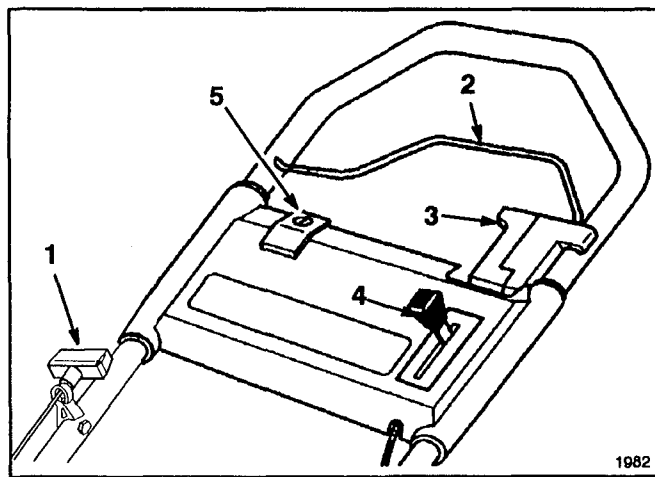
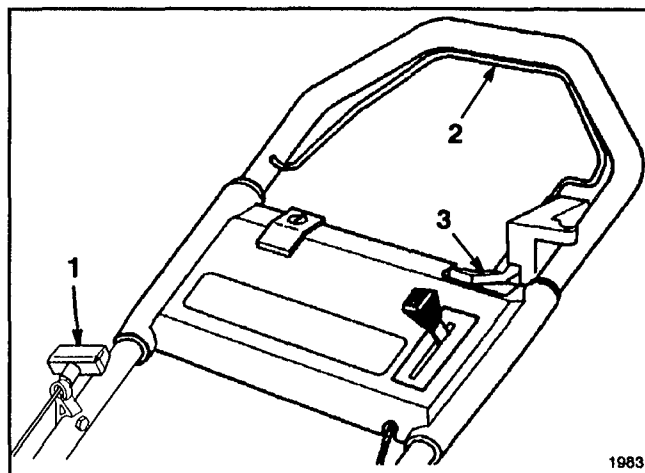
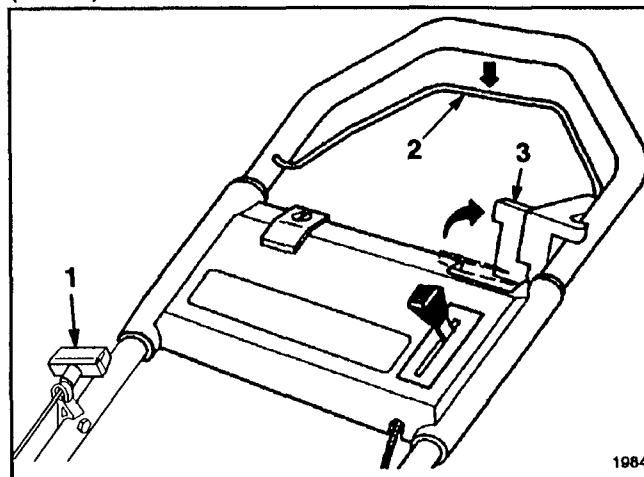
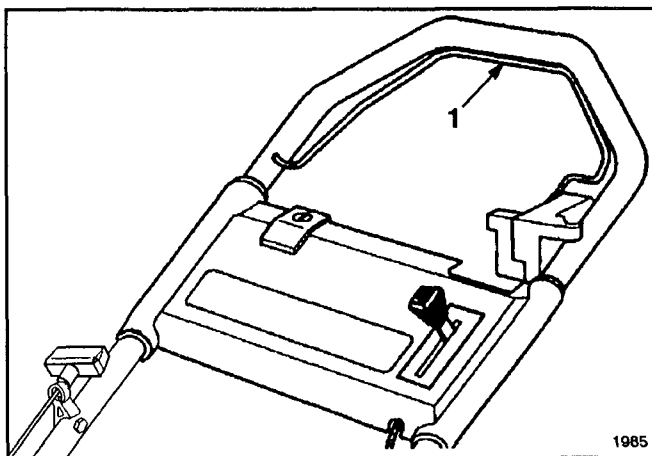

Figure 10
Figure 11
Figure 12
Figure 13
CONTROLS—Key switch, traction control, throttle, engine kill control bar and fingertip starter are on the handle (Fig. 10).
4. **KEY-ELECTRIC STARTING**—Move the traction control lever forward (toward the engine) (Fig. 11) and squeeze the control bar until it contacts the handle. Turn key (Fig. 10) to START and release when engine begins running. Lower the control bar halfway and move the traction control lever backward (toward the operator) (Fig. 12). Slowly squeeze the control bar against the handle to engage the traction mechanism (Fig. 13). Regulate the throttle as desired between  (FAST) and  (SLOW). If the battery's charge is too weak to start the engine, use the fingertip starter (Fig. 10).
5. **MANUAL STARTING**—Move the traction control lever forward (toward the engine) (Fig. 11) and squeeze the control bar until it contacts the handle. Pull the recoil starter out until positive engagement results; then pull vigorously to start the engine. Lower the control bar halfway and move the traction control lever backward (toward the operator) (Fig. 12). Slowly squeeze the control bar against the handle to engage the traction mechanism (Fig. 13). Regulate the throttle as desired between  (FAST) and  (SLOW).